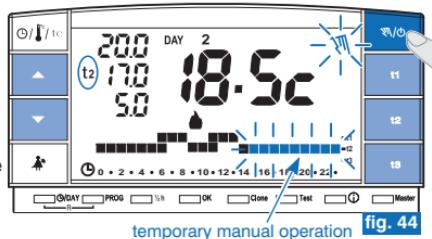

fig. 44
- Briefly press the “/O” key: the symbol “” will blink and the current temperature level will be applied to the remaining hours of the day (example in fig. 44).